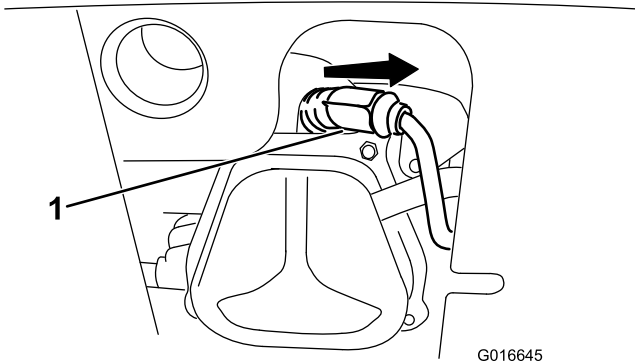

Figure 35
- Remove the boot (Figure 35).